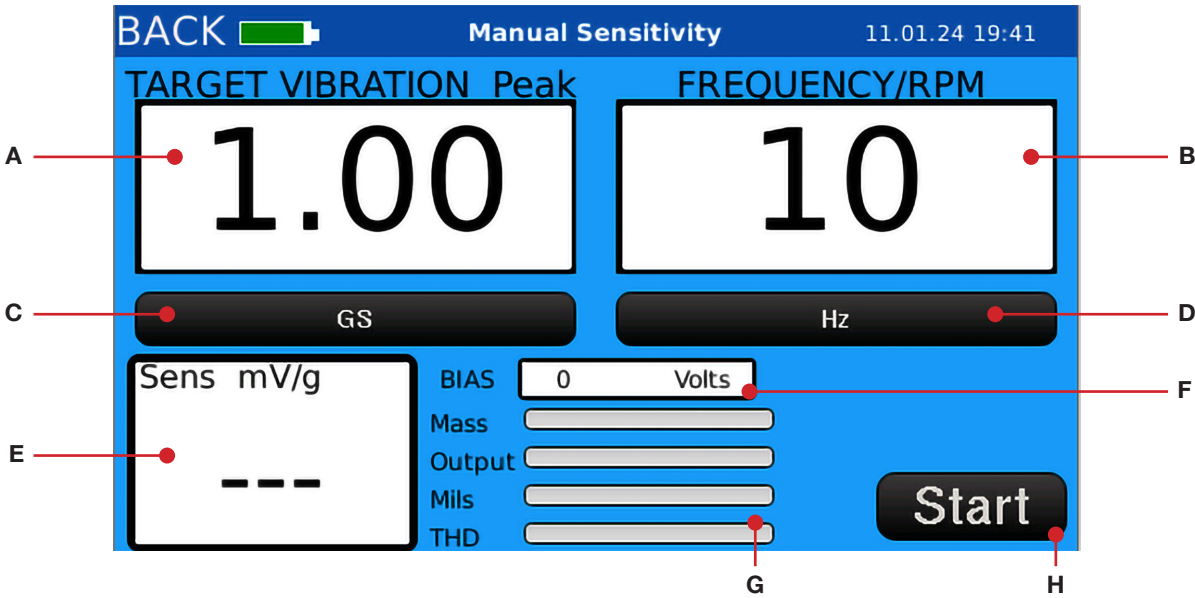

Figure 20. Manual testing screen
2. Manually select the amplitude and frequency to perform a sensitivity check (Figure 20):